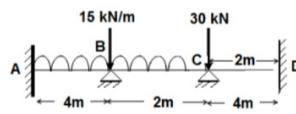

Fig.4
5. Find the maximum deflection and the slope at the prop of a beam supported and loaded as shown in Fig.4. [15]